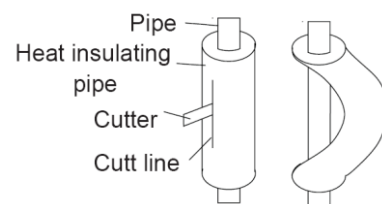

Figure 3-2-5
- (2) Do not bend the pipes in an angle more than 90°.
(3) When pipes are repeatedly bent or stretched, the material will harden, making it difficult to bend or stretch them any more. Do not bend or stretch the pipes more than three times.
(4) When bending the pipe, do not bend it as is. The pipe will be collapsed. In this case, cut the heat insulating pipe with a sharp cutter as shown in Figure 3-2-5, and bend it after exposing the pipe. After bending the pipe as you want, be sure to put the heat insulating pipe back on the pipe, and secure it with tape.